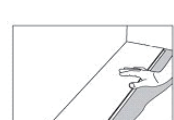

Figure 1
3. Starting from the LEFT with the tongue facing the wall, carefully place the first board in place. (Figure 1)